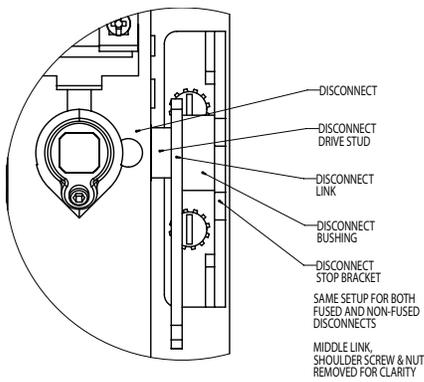
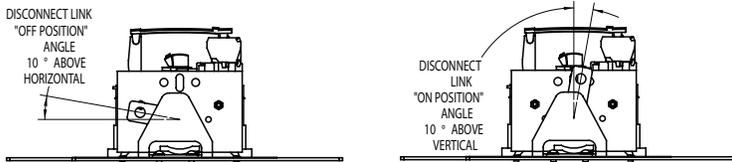

Figure 8C
Figure 8D
3. Verify disconnect link is in correct "ON" and "OFF" orientation for "horizontal" or "vertical" position. **Failure to do so could damage the disconnect.** See Figure 8D and disconnect instruction sheet. Slide disconnect link onto drive stud and then slide bushing over drive stud. See Figure 8C.